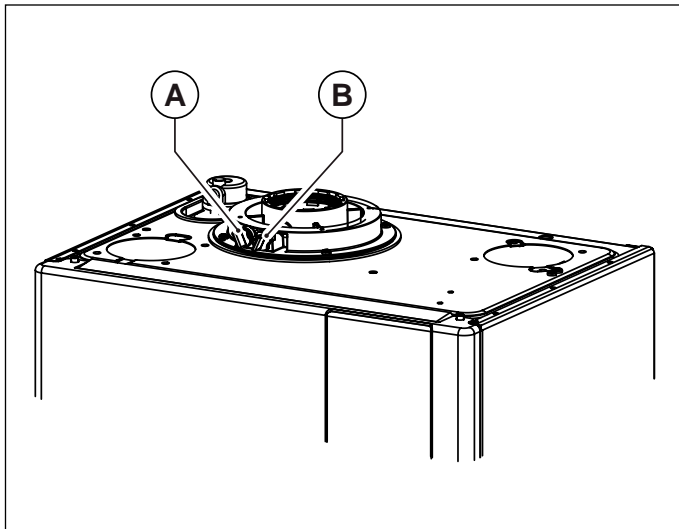
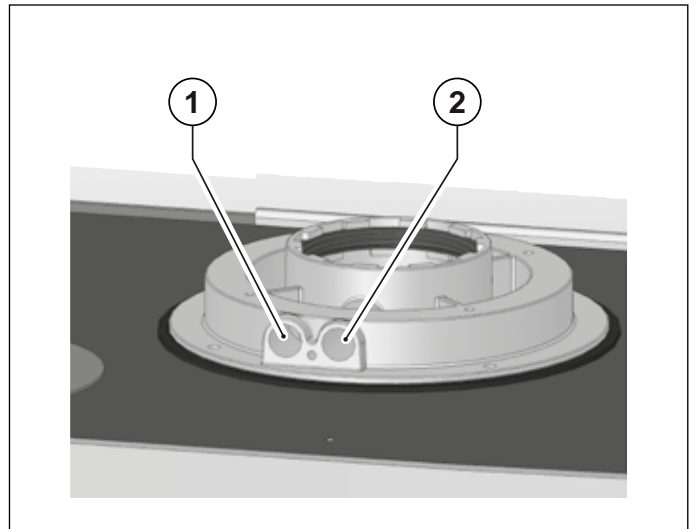

Fig. 20 Plugs position
Fig. 21 Hole position
The boiler is equipped with a tower allowing for air intake/flue gas venting pipe connection (see Fig. 20 Plugs position and Fig. 21 Hole position).
The tower is designed with two pre-arranged openings directly accessing air and flue gas ducts (see Fig. 20 Plugs position).
Remove caps **A** and **B** from the pre-arranged openings on the tower, before starting combustion checking procedure (see Fig. 20 Plugs position).
- assess combustion air from opening **1** (see Fig. 21 Hole position).
- assess flue gas temperature and CO₂ from opening **2** (see Fig. 21 Hole position).